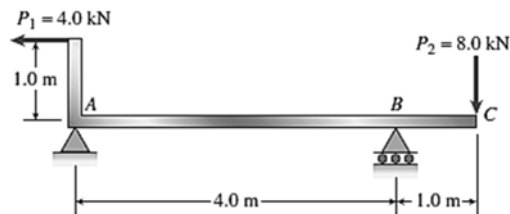

Fig. 4
4. Draw the shear and moment diagrams for the beam shown in Fig. 4.